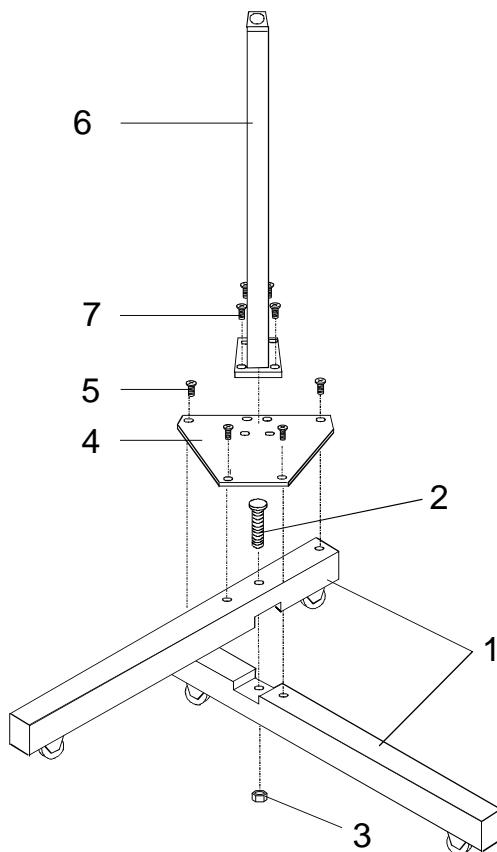

Figure 6-2
1. Cross the two base tubes (1 - Figure 6-2) into the provided cut, fixing them together with the screw (2 - Figure 6-2) and relevant nut (3 - Figure 6-2). Do not tighten the screw completely.
2. Position the base plate (4 - Figure 6-2) and fix it with the four screws (5 - Figure 6-2). If necessary, reposition the two base tubes (1 - Figure 6-2) slightly in order to align the relevant holes on the plate.
3. Lock the nut (3 - Figure 6-2) in order to block the base tubes (1 - Figure 6-2) permanently.
4. Assemble the stand column (6 - Figure 6-2) on the base plate (4 - Figure 6-2) with the four screws (7 - Figure 6-2).